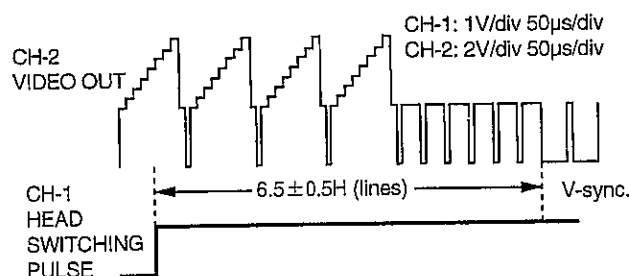

Figure 5-3.
7. Make sure the head switching point has been properly adjusted. Play back the alignment tape and check to see if the waveform on the oscilloscope screen is as shown in figure 5-3.